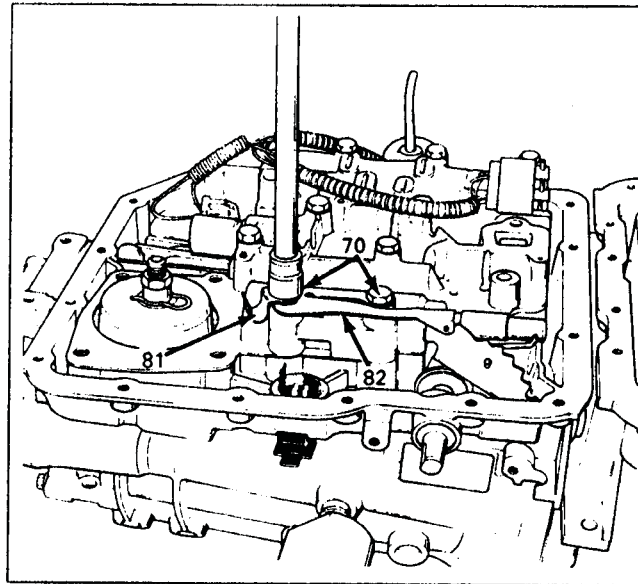

Figure 14
8. Remove the manual detent roller and spring assembly, using a 13mm socket, as shown in Figure 14.